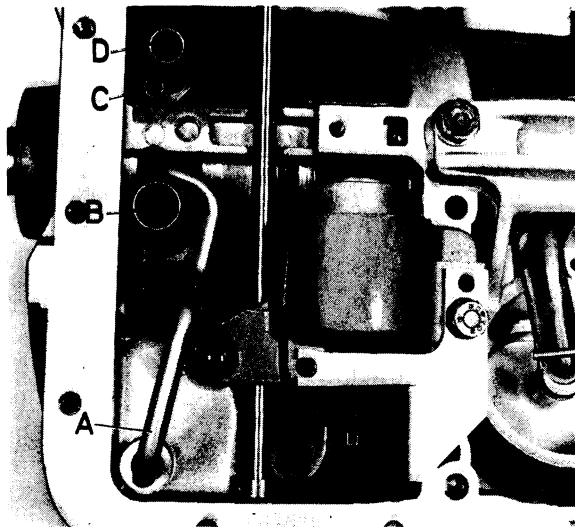

Fig. 4-109. Location of oil tubes, front of gearbox
24. Fit the oil tubes for the pump and converter on the front pump, see Fig. 4-109. Do not forget the O-ring for the pump inlet tube.